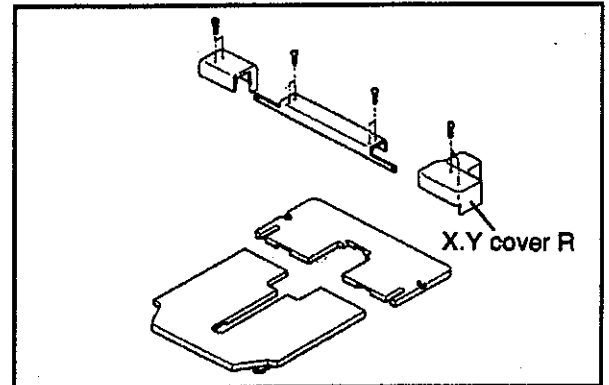

FIG.1
- (1) Remove X.Y cover R (Fig.1).